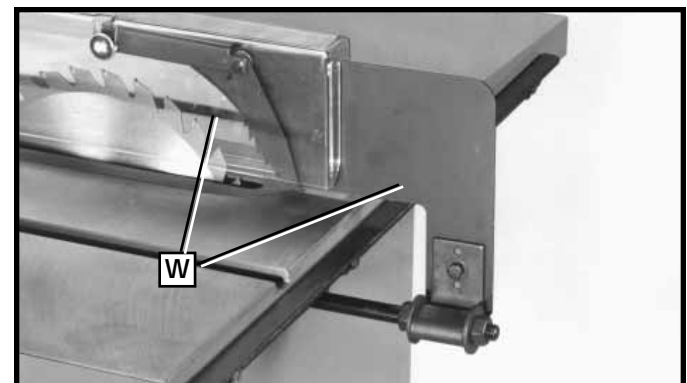

Fig. S14
⚠CAUTION For certain cutting operations (dadoing and moulding) where the workpiece is not cut completely through, the blade guard and splitter (W) Fig. S14 assembly cannot be used and needs to be removed.